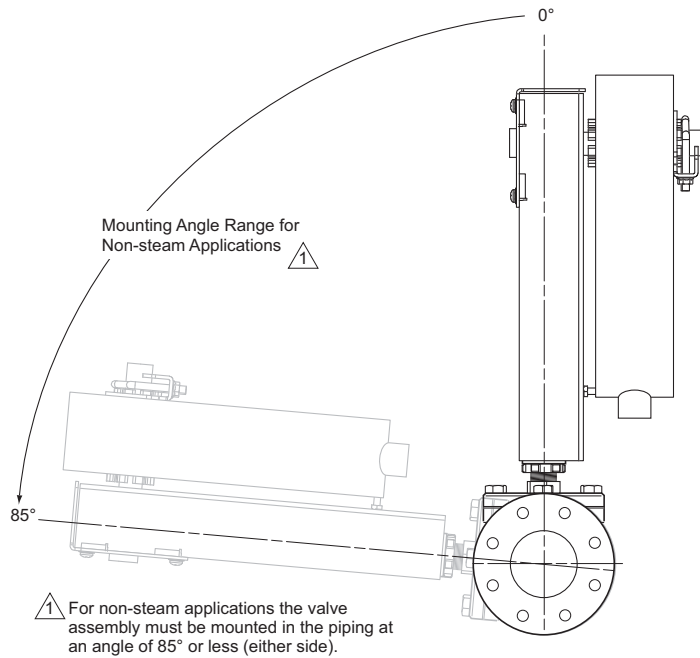

Figure-16 Typical Mounting Position.
- The globe valve assembly must be mounted so that the actuator is at least 5° above the horizontal (Figure-16) to ensure that any condensate that forms will not travel into the linkage or actuator.